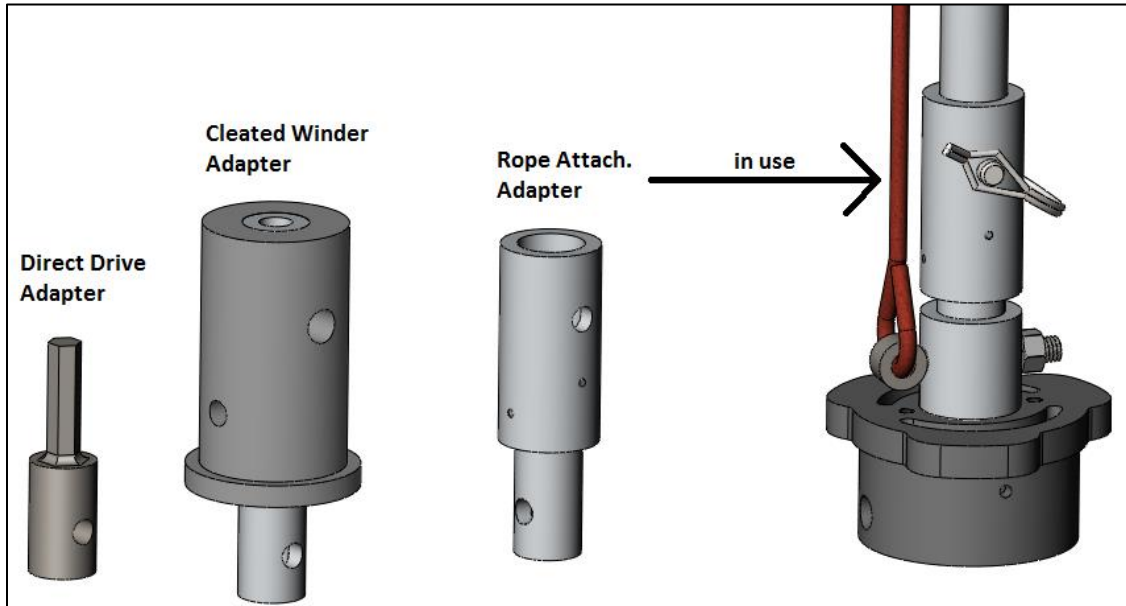

Figure 13: IDDO Hand Auger to SideWinder Adapters
**13.1** Refer to 8507-0010, Sidewinder Operator's Guide for a full description of the use of the Sidewinder accessory. This guide is only intended to explain the adapters specific to the IDDO Hand Auger system (Figure 13).